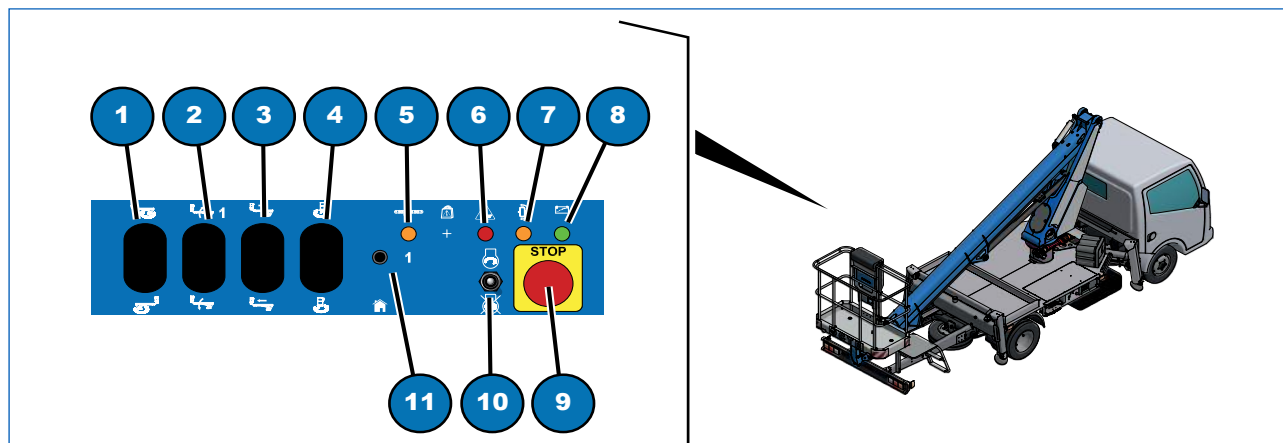

Fig. 4.7
- two are in the panel in the cabin (Fig. 4.7).